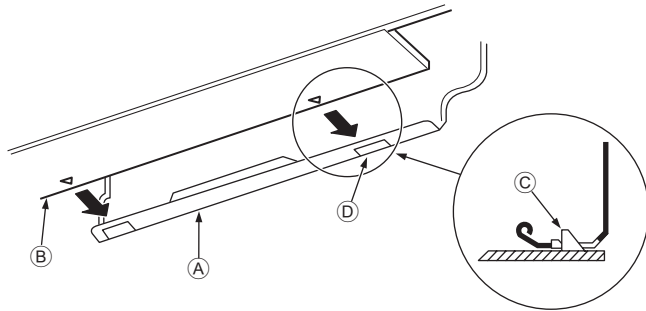

Fig. 3-15
3. While inserting the refrigerant piping and drain hose into the wall penetration hole (penetration sleeve), hang the top of the indoor unit to the mount board ①.
5. Fasten by pushing the bottom part of the indoor unit onto the mount board ①. (Fig. 3-15)
- \* Check that the knobs on the bottom of the indoor unit are securely hooked into the mount board ①.
- ① Mount board ①
② Indoor unit
③ Hook
④ square hole